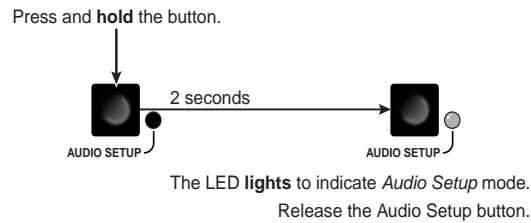

Figure 3-36 — Select Audio Setup mode
1. Press and **hold** the Audio Setup (I/O) button for approximately 2 seconds until the Audio Setup LED lights (figure 3-36).